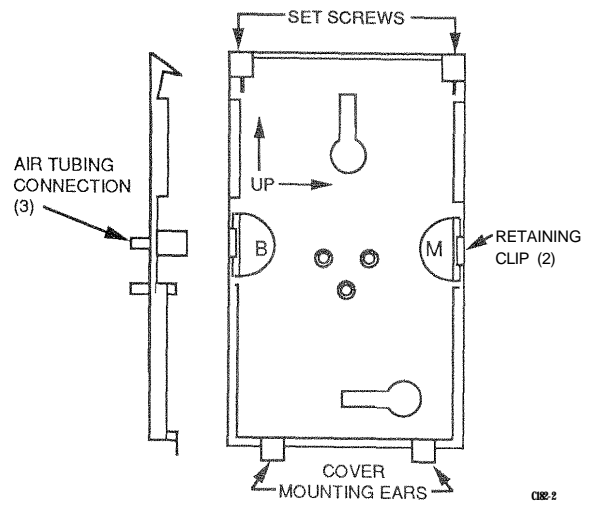
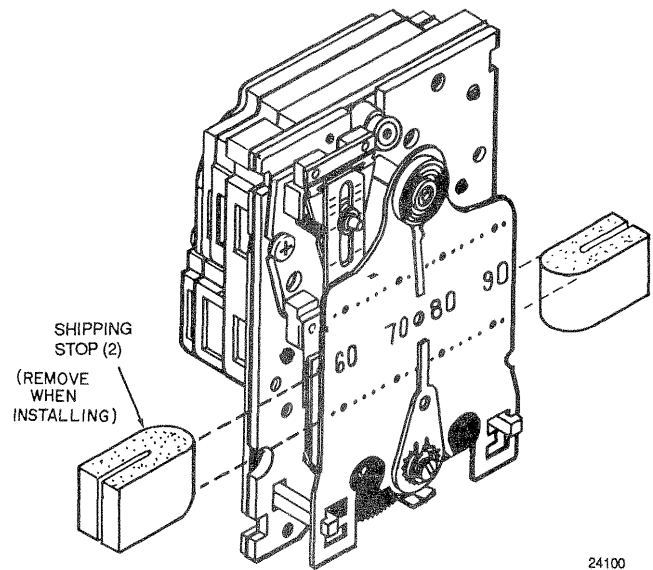
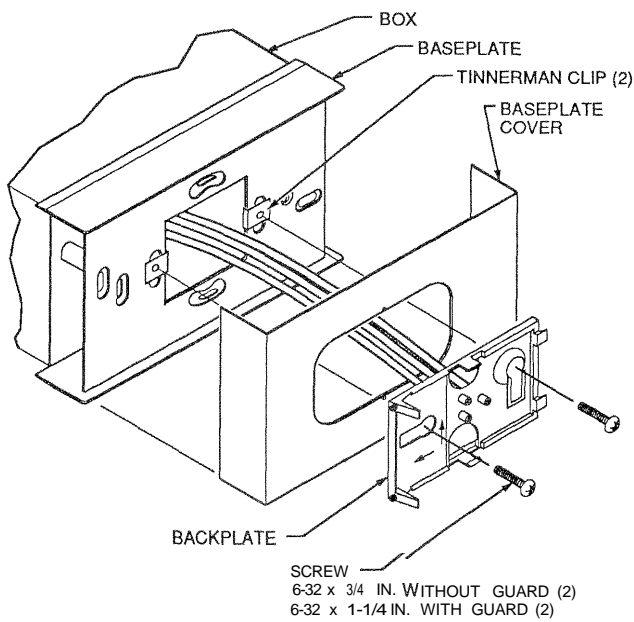
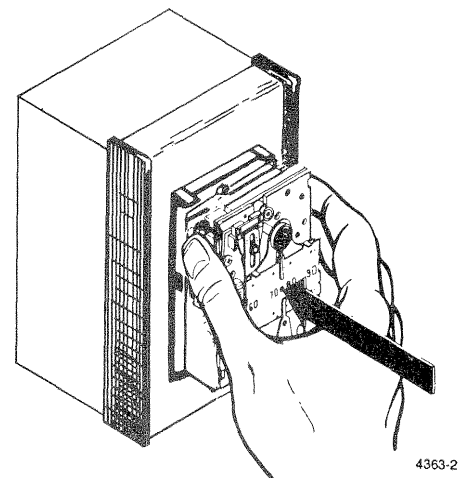

Fig. 4. Backplate.
Fig. 5. Removal of Shipping Stops, Thermostat Shown.
Fig. 3. Backplate to Baseplate Assembly.
Fig. 6. Thermostat/Humidistat Mounting to Backplate.
5. Slip the Tinnerman clips onto the baseplate with the threads below the baseplate (Fig. 3).
8. Connect the tubing to the backplate (Fig. 4) and use the screws to mount the backplate to the baseplate (Fig. 3). This holds the baseplate cover (and guard base) in place.
9. Remove any shipping stops (Fig. 5) and press the Thermostat/Humidistat in place onto the backplate (Fig. 6) until it is fully seated and the retaining clips on the backplate (Fig. 4) have engaged.
7. Connect the tubing to the Thermostat backplate (Fig. 4) and use the screws to mount the backplate to the baseplate (vertical mounting: Fig. 10; horizontal mounting: Fig. 11). This holds the baseplate cover (and guard base) in place.
8. Remove any shipping stops (Fig. 5) and press the Thermostat on the backplate (Fig. 6) until fully seated and the retaining clips on the backplate (Fig. 4) have engaged.
7. Remove any shipping stops (Fig. 5) and press the Thermostat onto the backplate (Fig. 6) until it is fully seated and the retaining clips on the backplate (Fig. 4) have engaged.